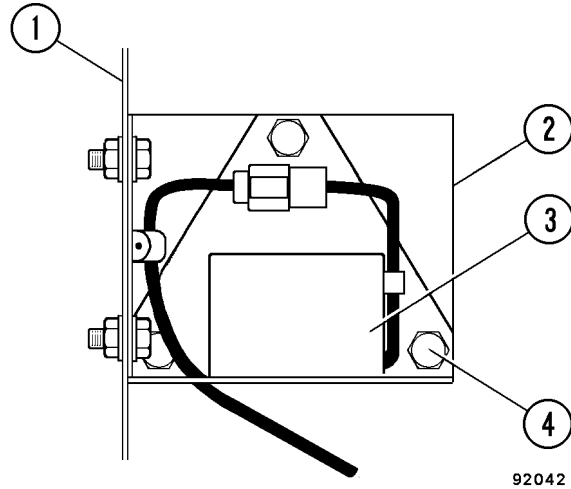

FIGURE 20-13. INCLINOMETER
2. Remove the three capscrews, nuts and lockwashers (4, Figure 20-13) and inclinometer (3).
1. Install inclinometer (3, Figure 20-13) with cap-screws, nuts and lockwashers (4).
2. Loosen the three inclinometer mounting cap-screws (4, Figure 20-13) and rotate the inclinometer until a voltage range of 2.6 ± 0.1 volts can be measured (using a volt-meter) at pins 1 and 2 of the inclinometer electrical harness connector.
3. Tighten all cap-screws (4, Figure 20-13) to standard torque, after the adjustment.